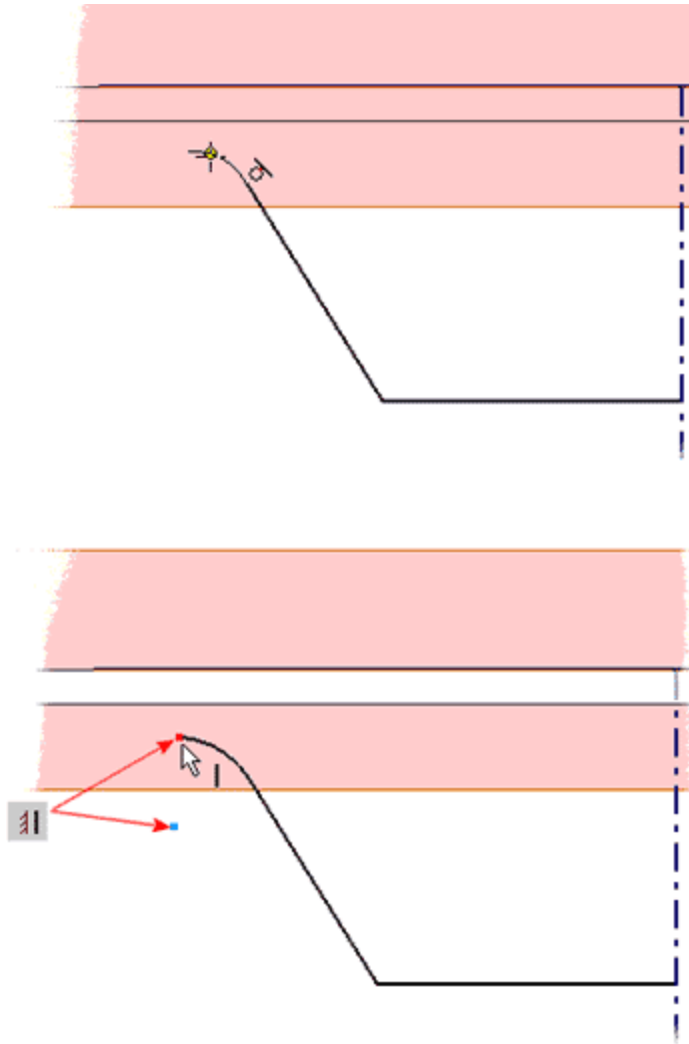

Figure 9: Dimple radius and constraint.
7. Add an arc to the end of the angled line as shown in the upper image of Figure 9. Add a vertical constraint between the free arc endpoint and the arc centerpoint as shown in the lower image of Figure 9.